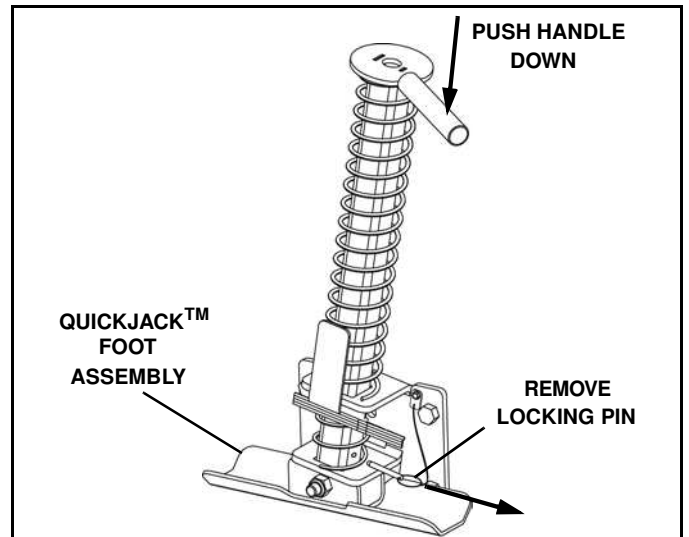

Figure 1-50
6. Remove the QuickJack™ locking pin and push the jackstand handle down to fully lower the foot to the ground. (See Figure 1-50).